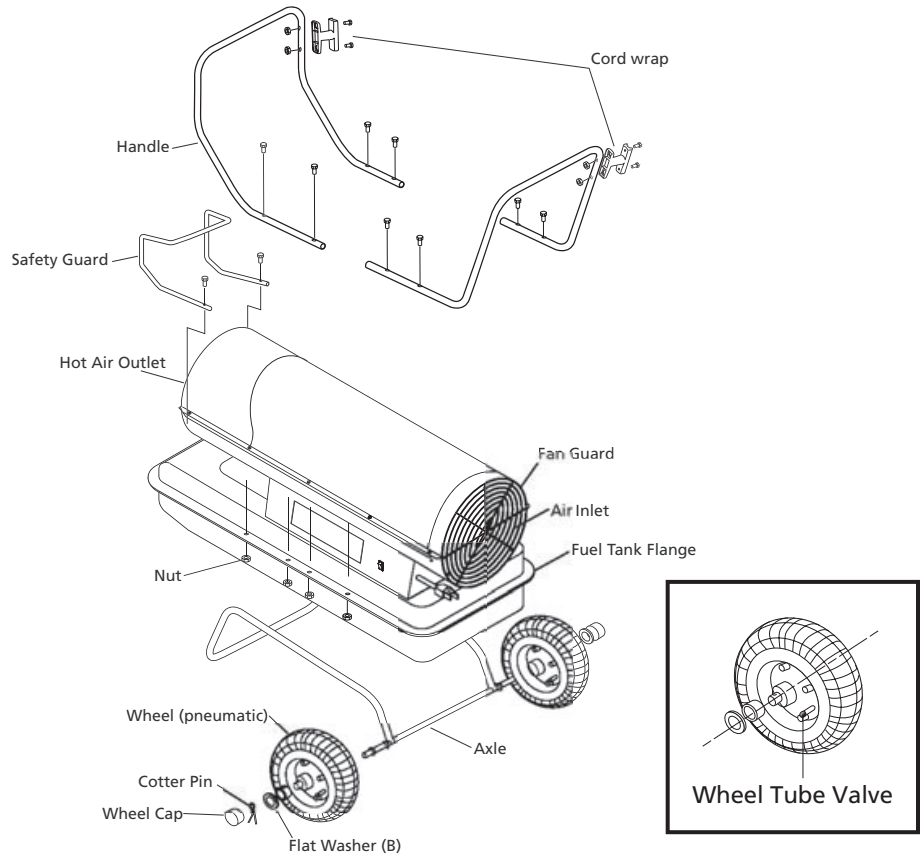

Figure 5 – 3VE53B Assembly
NOTE : When installing wheels, wheel tube valve of wheels outward wheel support frame (figure 5).
2. Place flat washers (L) and cotter pins on axle ends and bend cotter pins with long nose pliers to secure.
3. Place wheel cap on flat washers (L).
4. Place heater on wheel support frame. Make sure air inlet end (rear) of heater is over wheels. Align the holes on fuel tank flange. Insert screws through handles (front and rear), fuel tank flange, and wheel support frame as shown in Figure 5 and attach nut finger tight after each screw is inserted.
6. Place safety guard on upper shell. Tighten safety guard with two screws as figure 5.